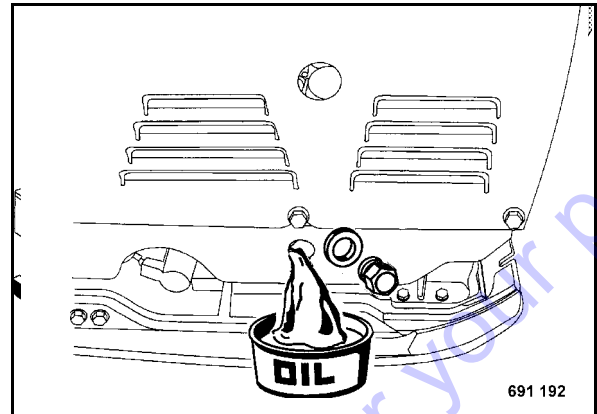

Fig. 62
- Unscrew the drain plug (Fig. 62) and catch running out old oil.